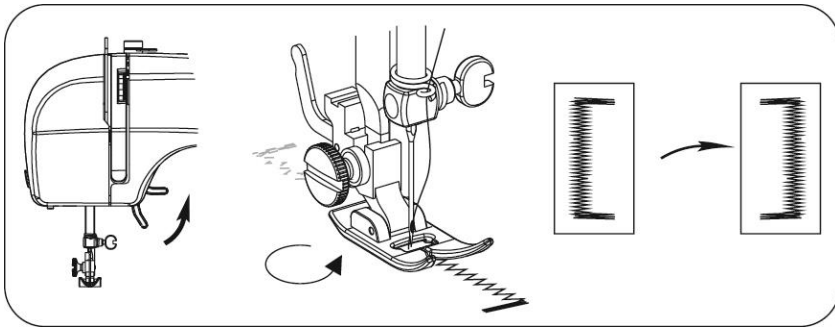

Fig.22
- 5) Raise the presser foot, rotating the cloth for 180° (Fig.22).